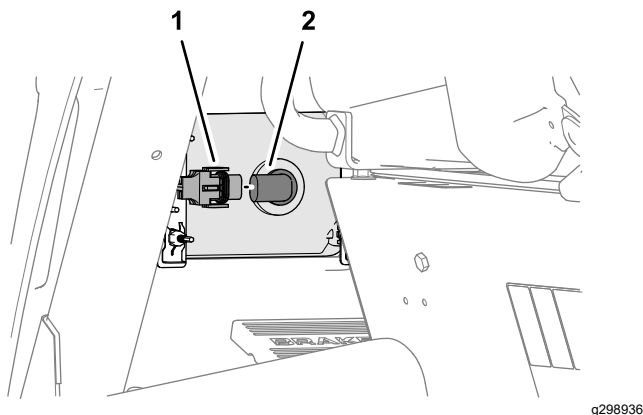

Figure 142
6. Assemble the headlight connector of the machine wire harness to the connector of the headlight bulb (Figure 142).